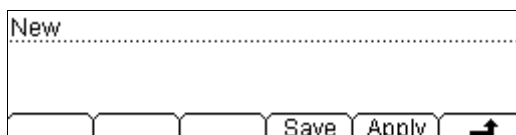

Figure 2-48 Finishing interface
- Press **Apply** as shown in figure 2-48 and load settings into current Sensor and use it directly.